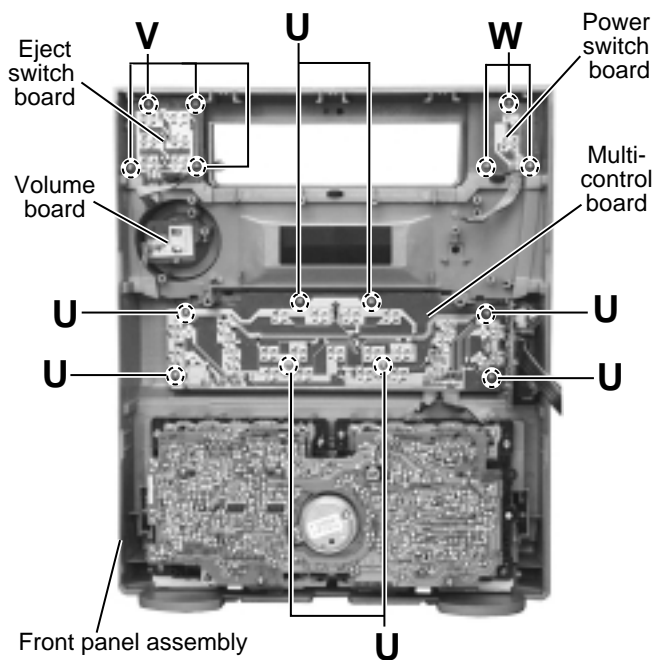

Fig.29
■ Removing each board in the front panel assembly (See Fig.29 to 31)
(See Fig.29)